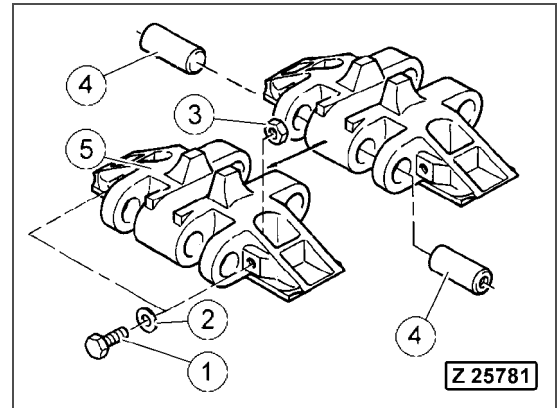

Fig. 4-3
- Flame-cut the nuts (Fig. 4-3, Pos. 3) from the locking bolts (Fig. 4-3, Pos. 1). Remove the locking bolts (Fig. 4-3, Pos. 1), washers (Fig. 4-3, Pos. 2), and nuts (Fig. 4-3, Pos. 3) from one track shoe (Fig. 4-3, Pos. 5).
- Pull out two pins (Fig. 4-3, Pos. 4) to open the track group using the pin-driving press, PN 232 313 40.